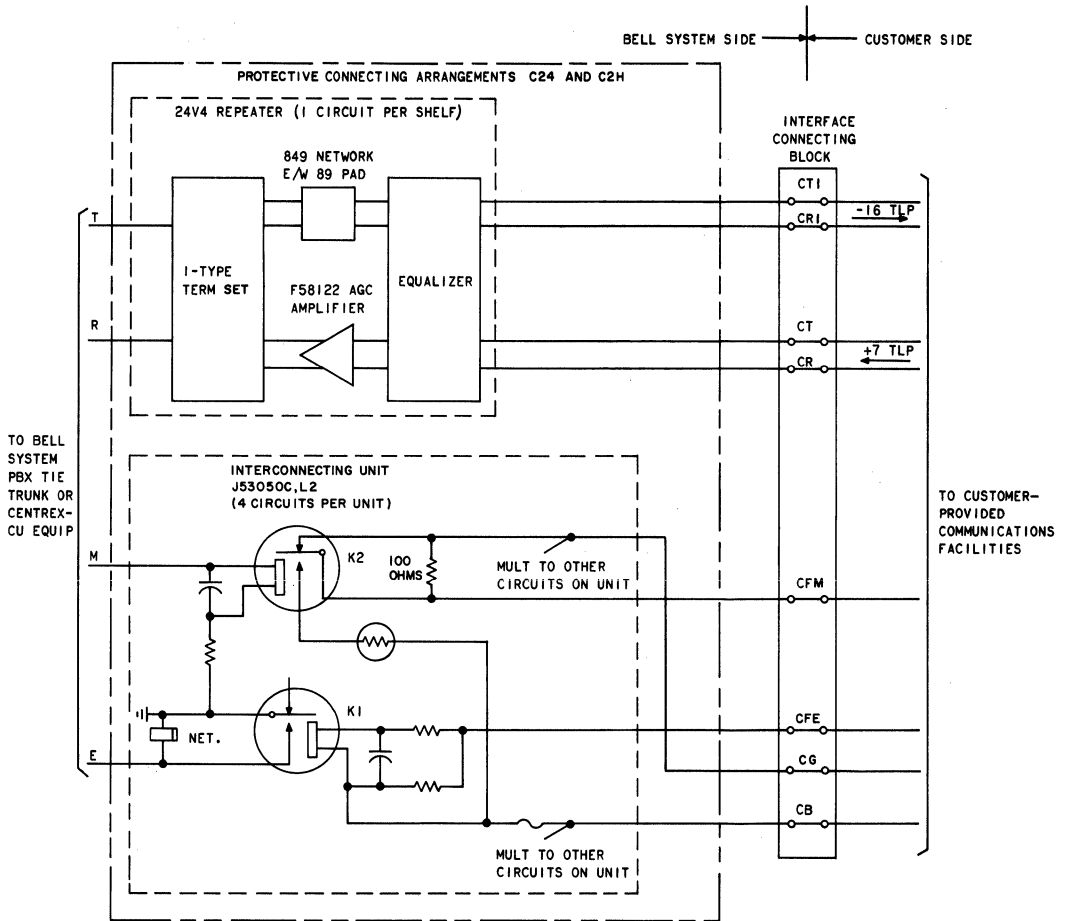

Fig. 1—Simplified Schematic—PCAs C24 (PBX) and C2H (Centrex-CU)
1.01 This section provides identification, installation, operation, maintenance, and connecting information for Protective Connecting Arrangements (PCAs) C24 and C2H (Fig. 1, 2, and 3). These PCAs provide for the connection of customer-provided (CP) 4-wire voice communications facilities to a tie trunk circuit associated with a Bell System PBX or Centrex system. They also provide an E and M type signaling interface. They are *not* intended for providing entrance facilities for CP microwave channels. PCA C24 provides for the connection of the CP facilities to a Bell System PBX trunk circuit and consists of an interconnecting unit J53050C, List 2 (Fig. 4), and a 24V4C repeater shelf J98615BJ, List 2, equipped with plug-in components. PCA C2H provides for the connection of the CP facilities to a trunk circuit associated with a Bell System Centrex system. When used with a Centrex-Customer (Centrex-CU) System, PCA C2H consists of the same equipment as PCA C24. For a Centrex-Central Office (Centrex-CO) system, PCA C2H consists of an interconnecting unit J53050C List 2, a signaling extension unit J98605AM, and either a 24V4C repeater shelf J98615BJ List 2, or a 44V4A intermediate repeater shelf J98615AH List 2 equipped with plug-in components. The 24V4C is used when the PCA is associated with Bell System 2-wire voice facilities while the 44V4A is used with Bell System 4-wire voice facilities. A KS-15620, List 22 rectifier, or equivalent, may be used to power the PCAs if other Bell System battery and ground are not available.
Note: For plug-in components, refer to Section 852-307-101. When automatic control of signal power level is required, order F58122 automatic gain control (AGC) amplifier for use in the *transmitting leg from the CP facilities to Bell System equipment* instead of the standard 227-type amplifier shown in Section 852-307-101. (See Fig. 1, 2, and 3.)